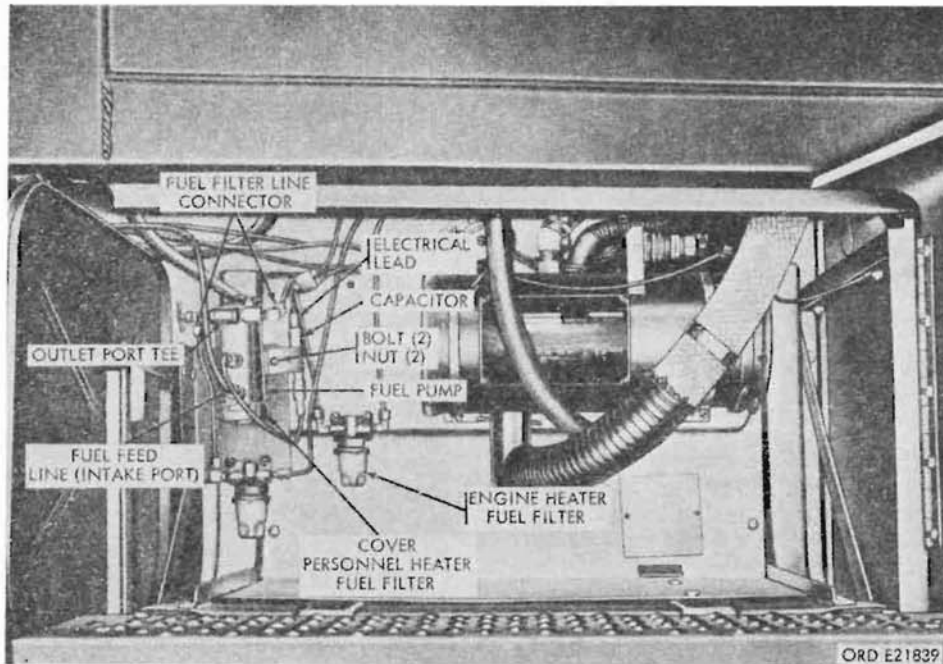
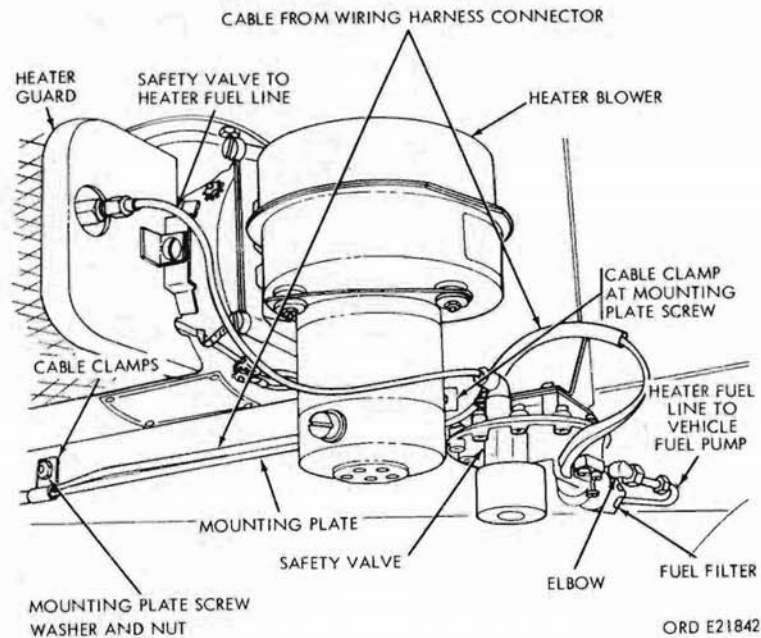

Figure 404. Fuel pump replacement - multifuel
Figure 407. Fuel and electrical connections at fuel filter and safety valve
- (b) Open compartment door on right running board. Disconnect fuel pump electrical lead at capacitor, feed line at pump, and filter lines at shutoff cock and elbow connector (fig. 404).
- (2) Installation. Assemble shutoff cocks and fittings assembly to outlet port of the pump. Locate pump on bracket. Secure with two bolts and nuts, and connect feed line from vehicle fuel tank at lower (intake) port. Connect filter lines to shutoff cocks and elbow. Connect electrical lead to pump capacitor terminal (fig. 404). Turn personnel heater on and check pump operation.
compartment (fig. 404). On gasoline models it is located at the personnel heater safety valve in the engine compartment (fig. 407). The fuel filter for both multifuel and gasoline model power plant heater is located in the right running board compartment (fig. 404 and 405):